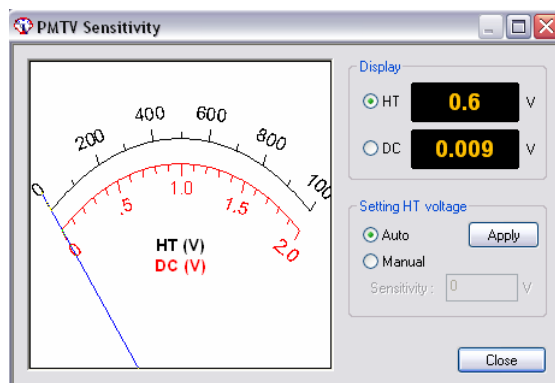

Figure. 5.8 [PMTV Sensitivity] dialog box
[Display] Changes over the meter indication (displayed to the right side of Fig. 5.8) at the right to [HT] or [DC] with an option button.
*Note: Closing the shutters zeroes the HT voltage. Ensure it in the [CD Detector...] dialog box (Fig. 5.8) if necessary.*